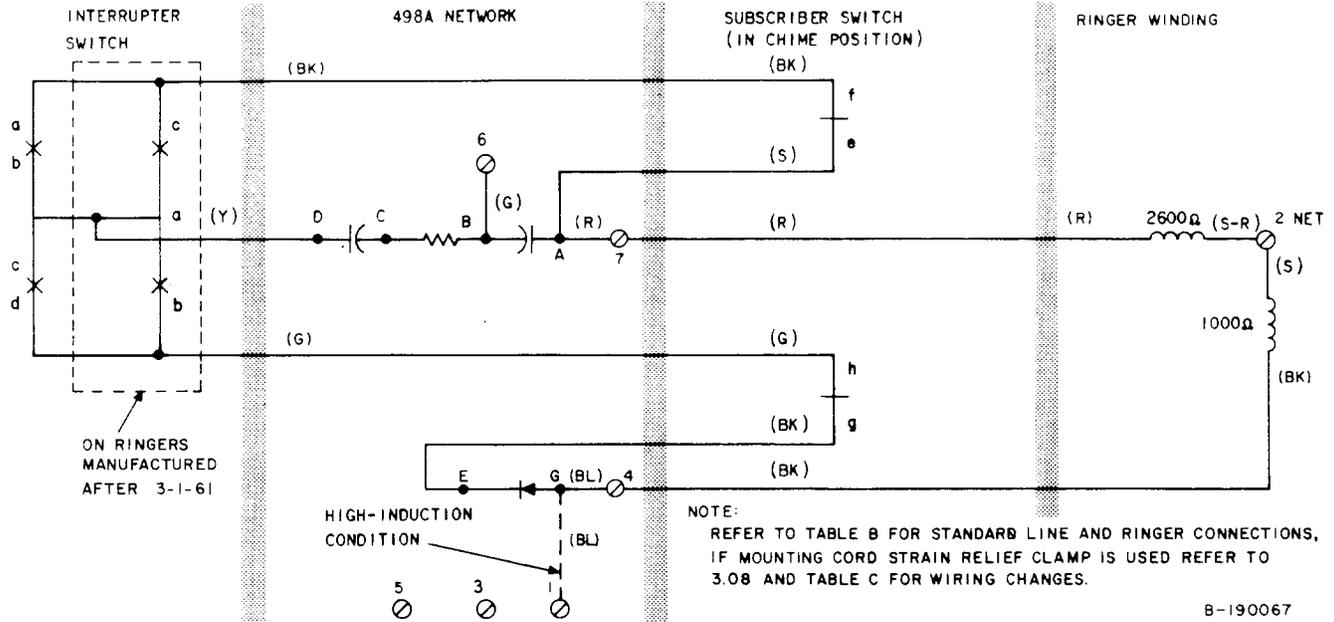

Fig. 4—F1A Ringer, Schematic
- (e) Interrupter switch assembly operated by movement of clapper rod to control chime operation. (Earlier model ringers have a 4-leaf spring assembly; later models have 3-leaf spring assembly as shown in Fig. 4.)
6.03 Table B gives connections for the F1A ringer. A circuit drawing is shown in Fig. 4.